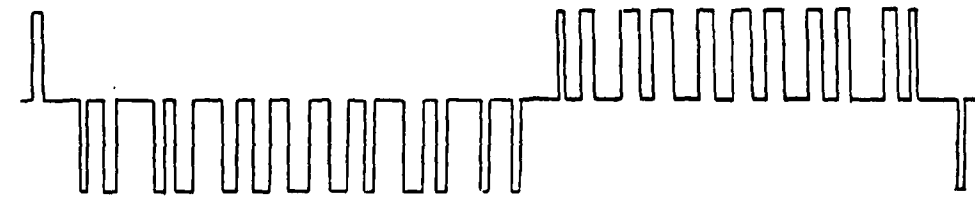

FIGURE 3-2
A. Pulse-Width Modulation Technique (Figure 3-2)